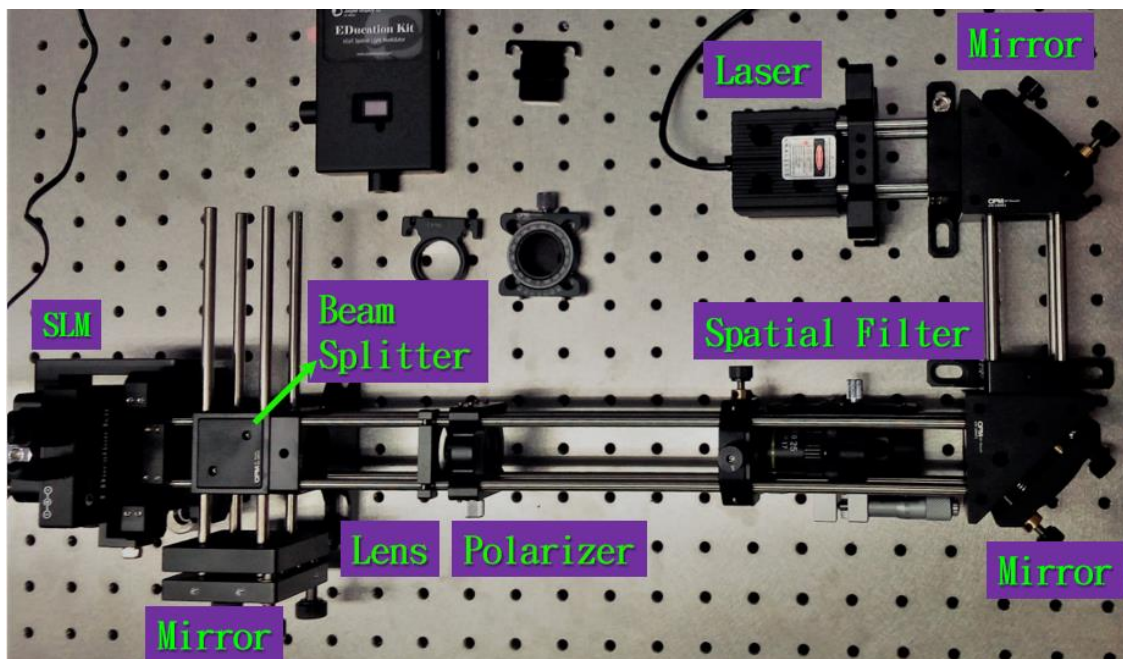

Figure 1
1. Setup instruments as shown in Figure 1. Make sure that the light emitted by the laser runs parallel to the surface of the table. Also make sure that the light beam passes through the center of each component and it enters each component perpendicularly.